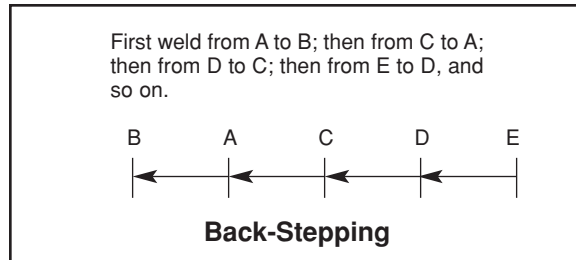

FIGURE B.18
3. When welding sheet metal 16 gauge (1.5 mm) and lighter, heat buildup may cause part warpage and burn through. One way to eliminate these problems is to use the back-stepping method illustrated in Figure B.18.